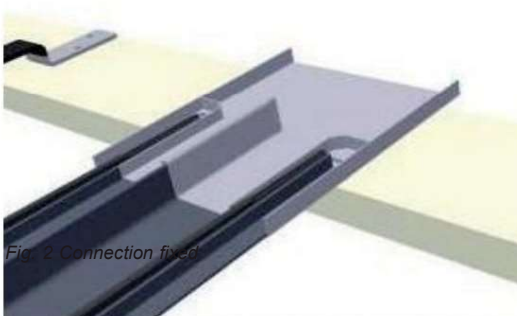

Fig. 2 Connection fixed
2. Attaching the black profile with the profile connector (shown in light gray in Figure 2).